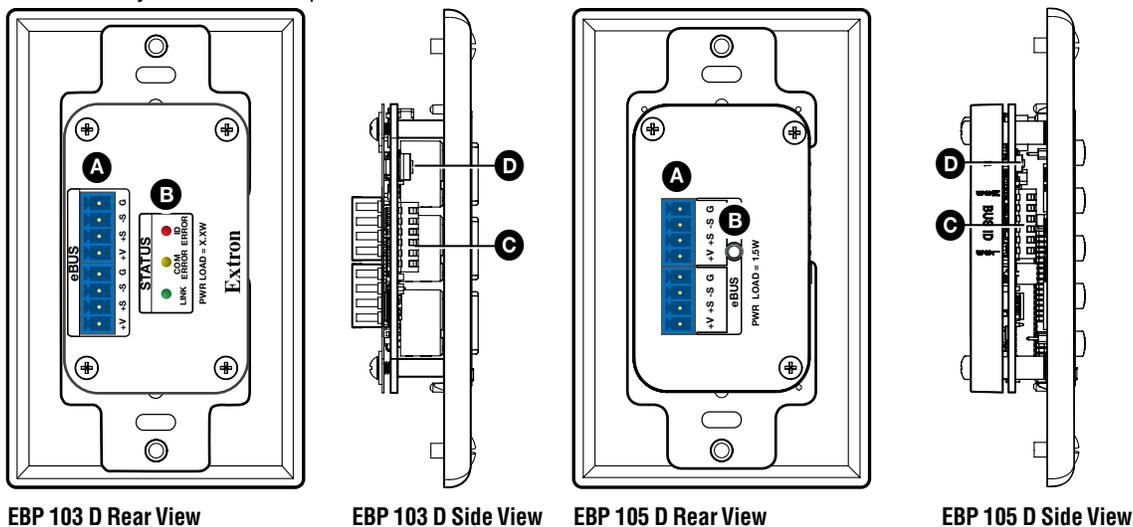

Figure 1. EBP 105 D and EBP 103 D Rear and Side Views.
Figure 1 shows the side and rear views of the EBP 105 D and the rear view of the EBP 103 D. The EBP 105 D side features are very similar for all EBP decorator-style models except the EBP 103 D. The EBP 105 D rear features are the same for all EBP decorator-style models except the EBP 103 D.
2. While reconnecting power, press and hold down the **Reset** button (see figure 1, **D** or figure 2, **A**).